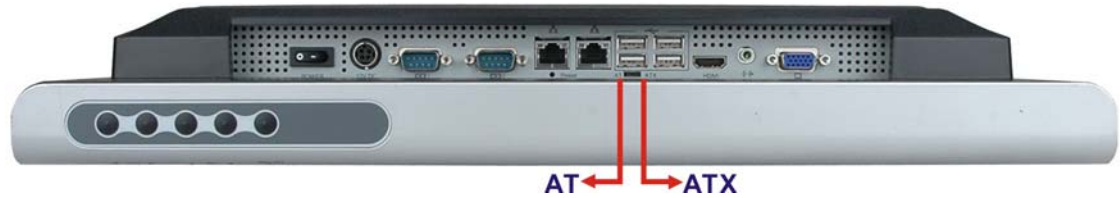

Figure 3-30: AT/ATX Switch Location
AT and ATX power modes can both be used on the AFL-HM55 Series. The selection is made through an AT/ATX switch on bottom panel (**Figure 3-30**). To select AT mode or ATX mode, follow the steps below.
Step 1: Locate the AT/ATX switch on the bottom panel (**Figure 3-30**).